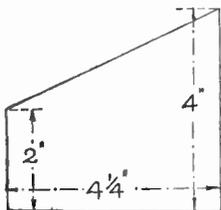

Fig. 6—Dimensions for design 2
Ideally, the method shown in Fig. 6 is best for making the basket and is quite easy to do, the only snag being to get the basket-making material. Only a small quantity is required although some handicraft suppliers put up  $\frac{1}{4}$  lb. lots. However, if one can get some No. 6 cream cane for the upright stakes and some No. 3 for the weaving, one is equipped for a fine job. It is possible to
Although looking quite solidly constructed, the box is in two parts. There is the upper box to which is attached a rim of moulding (the upper stage of the two-stepped base), and which is shown in Fig. 6, and the main base, the lower of the two steps, shown in Fig. 2. The top part sits in the opening of the lower part (Fig. 5 gives some idea of this). But whilst the fit is good the long way, there is  $\frac{1}{2}$  in. extra the short way in the lower framed part, so that the upper
given in Fig. 5. Note that a notch is cut at the bottom of one side (the narrow partition side) only. Make the plain box first without the surround (E), testing it by 'offering' it to the lower frame. There should be a  $\frac{1}{4}$ in. movement from back to front but no more, from side to side, than to ensure easy working. This ascertained, apply the surround (E) which is of  $\frac{3}{8}$ in. by  $\frac{1}{2}$ in. stuff. Note that this surround is NOT flush with the bottom of the box but  $\frac{1}{4}$ in. up. This can clearly be seen in Fig. 6.